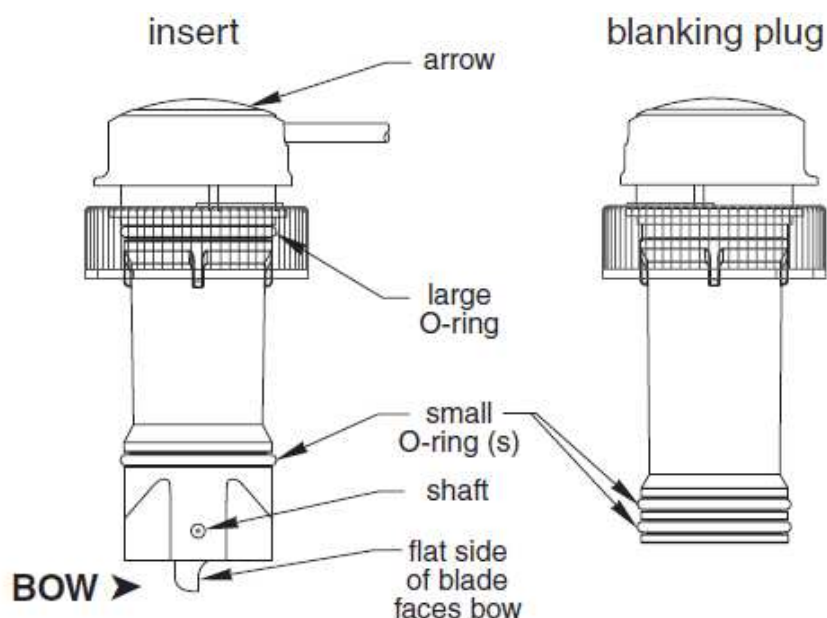

Figure 3-1: Paddlewheel and O-ring replacement
1. On the blanking plug, inspect the O-rings (replace if necessary) and lubricate them with the silicone lubricant supplied or petroleum jelly (Vaseline®) (see Figure 3-1).
1. To remove the old paddlewheel shaft, grasp the end with small diagonal wire cutters and pull (see Figure 3-1).